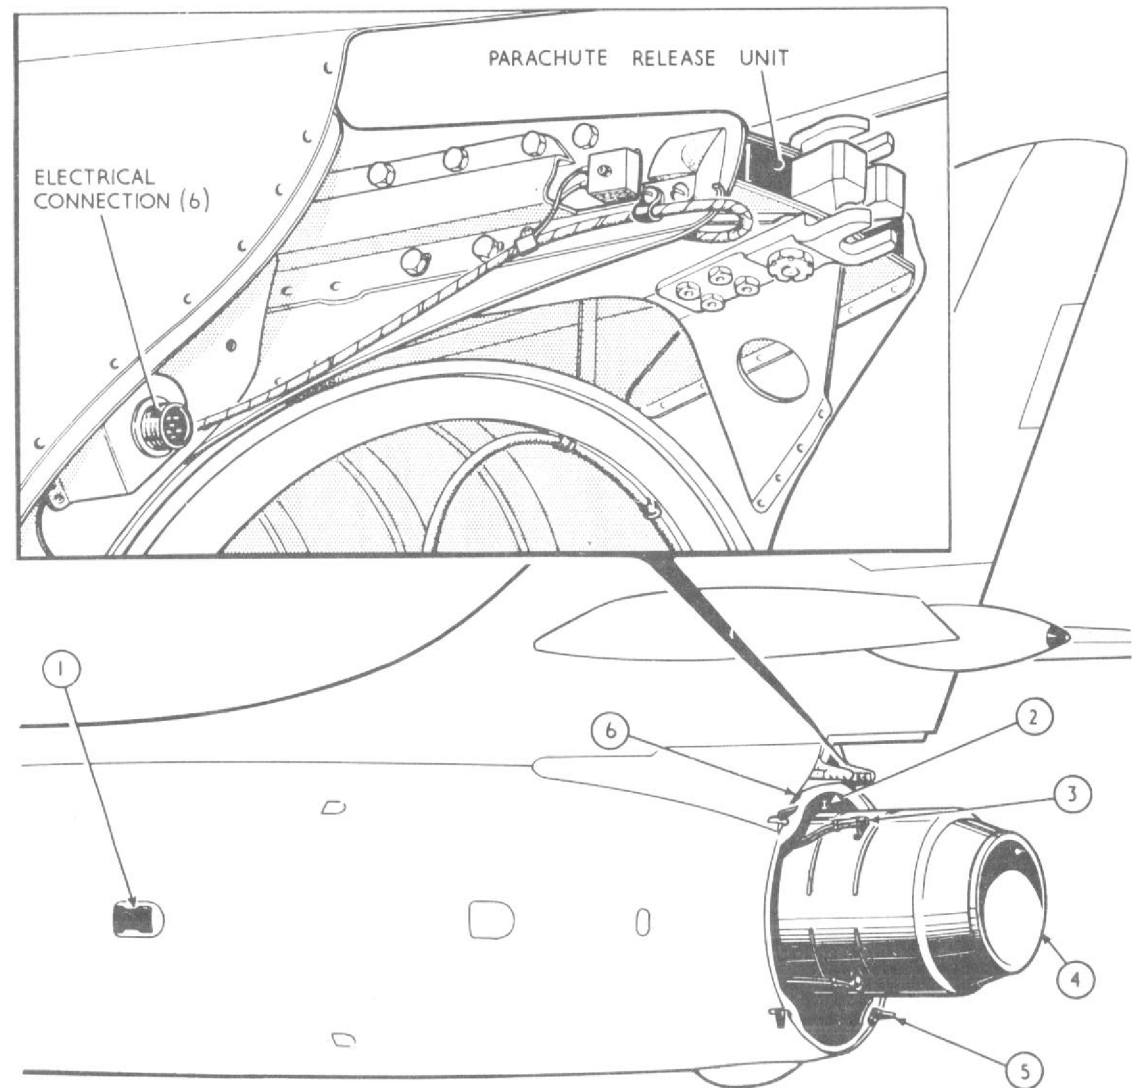

**Fig. 17. Securing engine rear roller on trolley**
- (12) Withdraw the engine from the aircraft on to the trolley, and secure by placing the retaining bolts in front of the engine rear rollers at the end of the roller rails (*fig. 17*). Withdraw the split bolt to disengage the trolley from frame 40A. Lower the trolley on to its wheels and tow away.